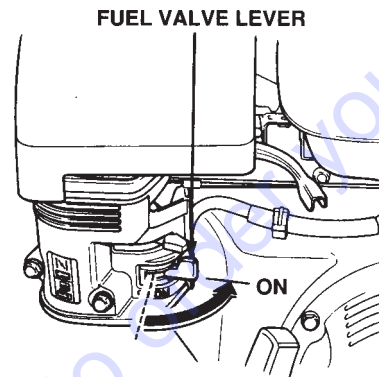

Figure 5. Fuel Shut-Off Lever
1. Move the fuel shut-off lever (Figure 5) to the **ON** position.